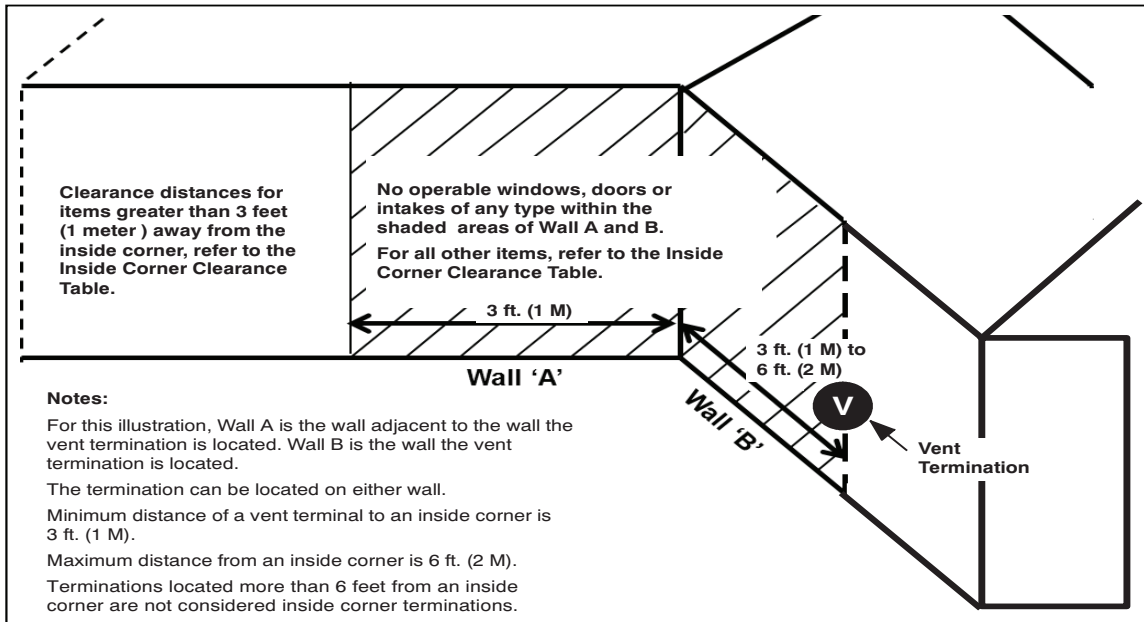

Fig. 42 – Inside Corner Termination
2. The vent termination must be located at least 3 feet from an inside corner and follow the clearance distances in the Inside Corner Termination drawing. See Fig. 42.